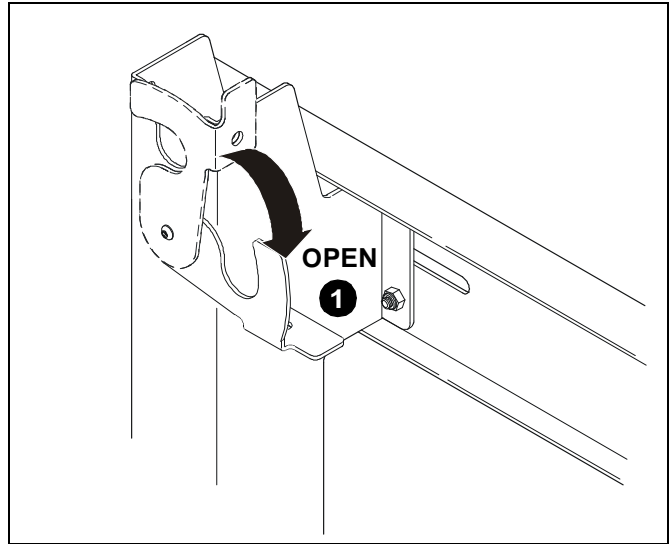

Figure 4
- Move locking flags on mount to the OPEN position. (See Figure 4)